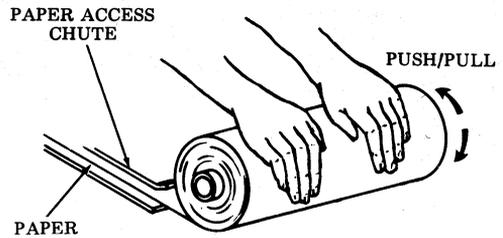

Fig. 52—Rotating Paper Roll
- 9.04 Rotate paper roll as shown to feed paper through printer. It will be necessary to push and pull paper roll slightly. Use both hands on paper roll for even pressure on paper (Fig. 52).